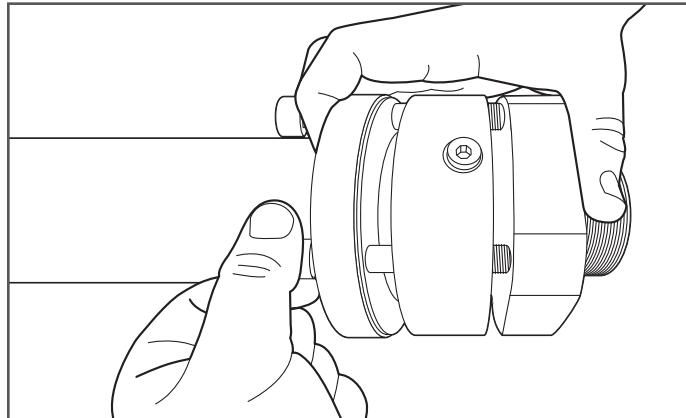

Figure 9-11
11. The DoubleTrac® fitting is ready to reinstall. Follow assembly of DoubleTrac® fitting instructions beginning in section 7 (Figure 9-11).